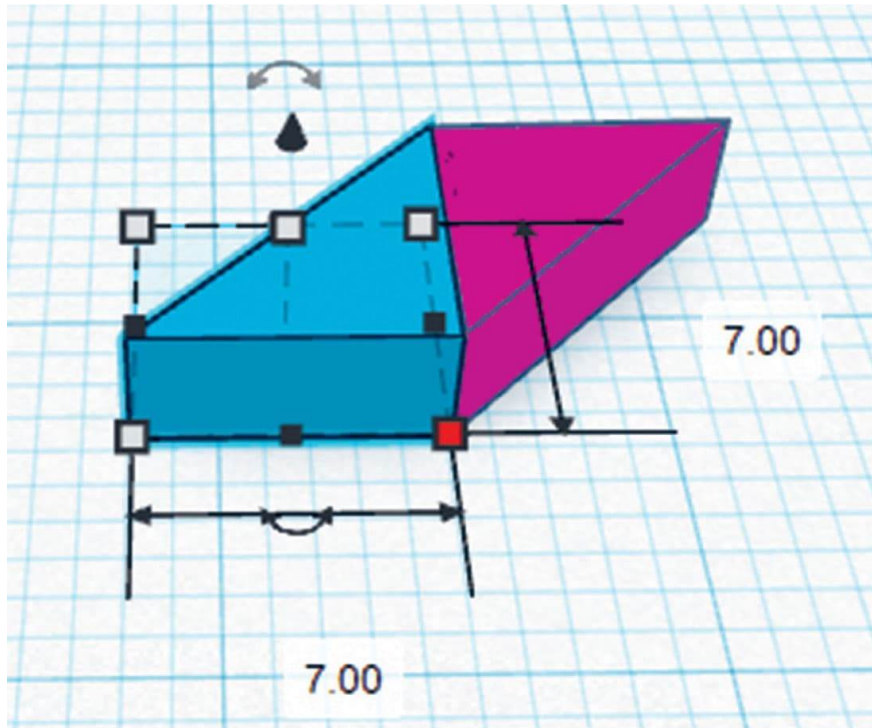

FIG. 7: Rotate and merge two small triangles to form a parallelogram.
11. Make the parallelogram by making two copies of the small triangles you made in the steps above. Rotate and merge them as shown in fig. 7.